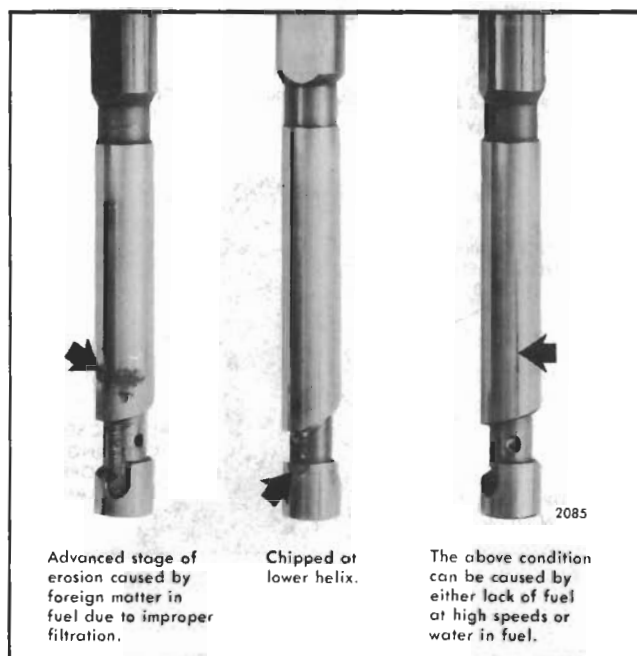

Fig. 10 - Unusable Injector Plungers
4. Inspect the plunger. If the plunger is chipped (Fig. 10), replace the plunger and bushing assembly.